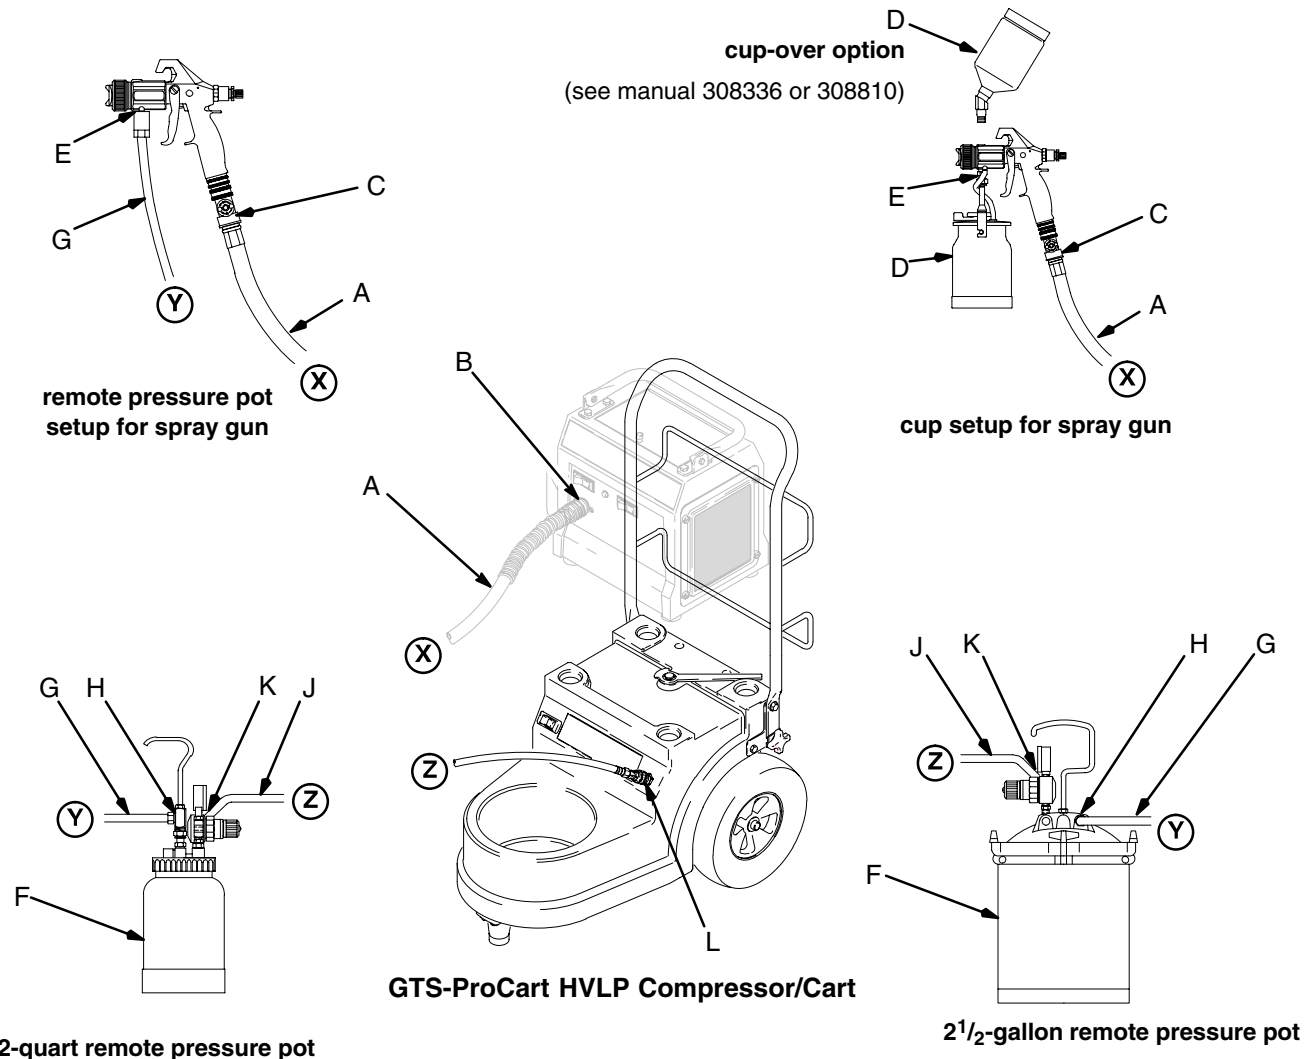

Fig. 4
See Fig. 4
- The circled letters in Fig. 4 indicate hose line connections.
1. Connect gun air supply hose (A) between turbine air outlet (B) and gun air inlet (C). DO NOT use wrench to tighten connections; hand tighten only.
**NOTE:** The GTS-4900 turbine uses a quick connector at the air outlet (B). A wrench is not required to connect the air hose (A).
2. If using spray gun cup (D):